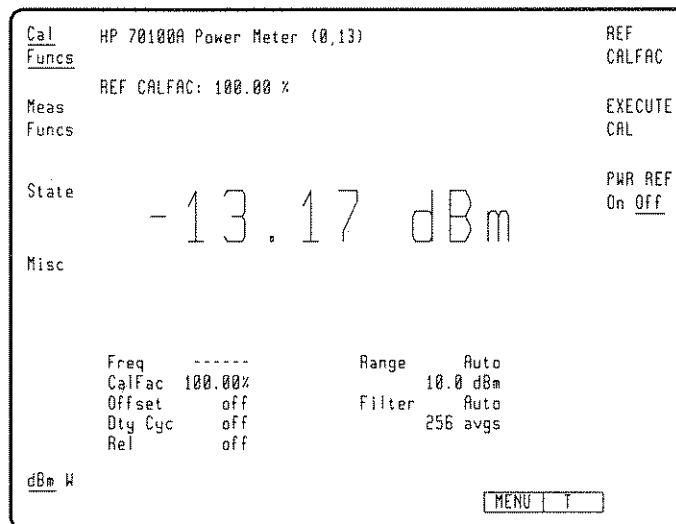

Figure 6-4. Cal Menu
cal accesses another menu. Refer to Figure 6-4. This menu allows entry of the reference cal factor, the calibration of the Power Meter and any compatible power sensor to a known reference, and turning on or off of the power reference.
When **cal** is pressed the menu shown in Figure 6-4 will be displayed. The reference cal factor is displayed in the upper left corner of the menu. A new reference cal factor can be entered
3. Press **cal**, the menu shown in Figure 6-4 will be displayed.